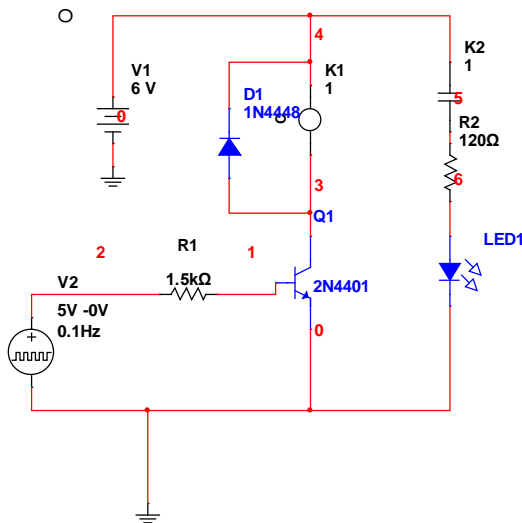

Figure 8
- Add the clamping diode to your circuit as in Figure 8 below. You should see about a .5 V bump when the clamping diode turns on to eliminate the inductive spike. The result of your simulation should be similar to Figure 9.